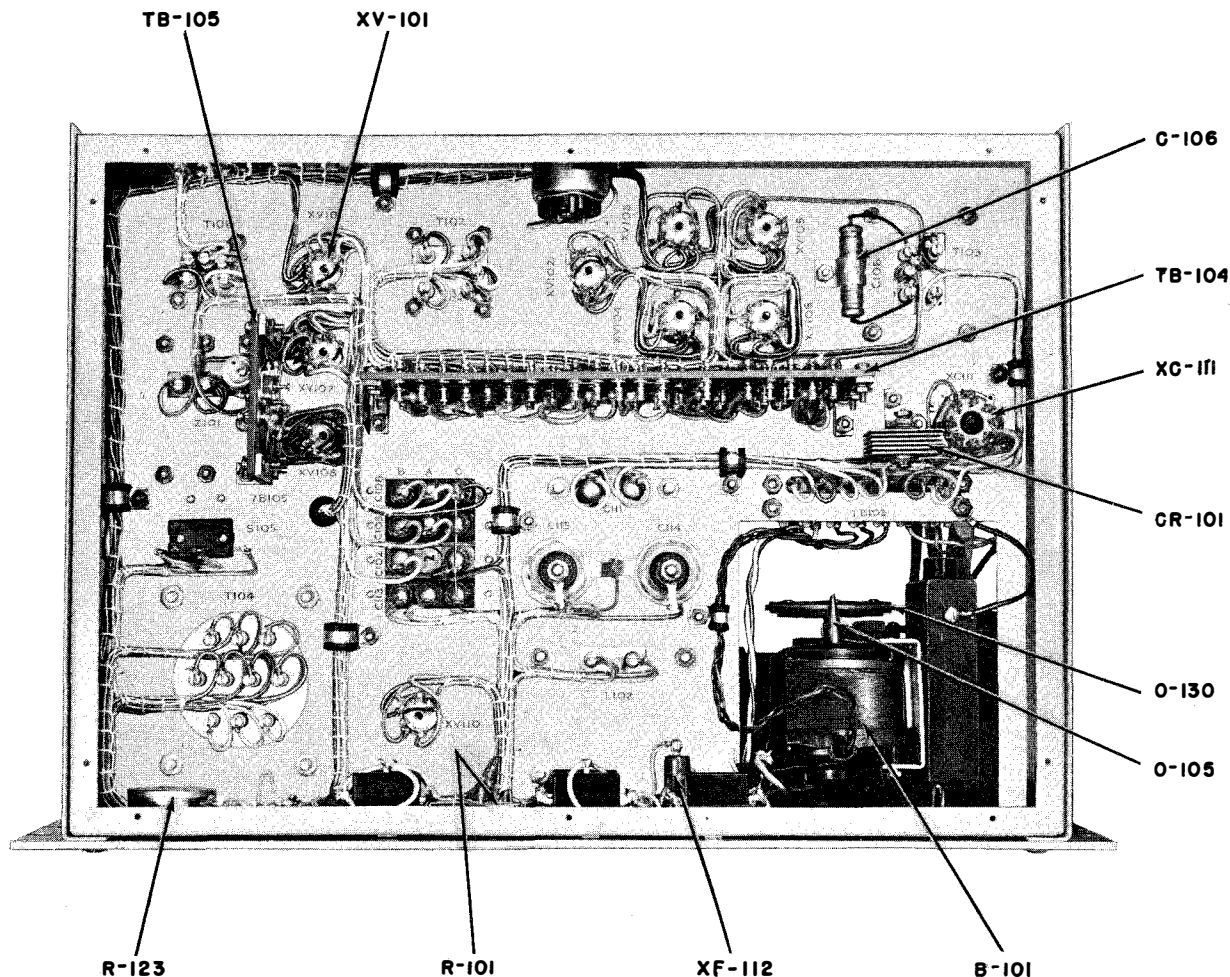

Figure 5-2. Recorder Bottom View, Cabinet & Base Plate Removed
Step 9. Check cone O-105 and rim of the friction wheel O-130 for grease or oil film on the surface. See Fig. 5-2. Clean with carbon tetrachloride.